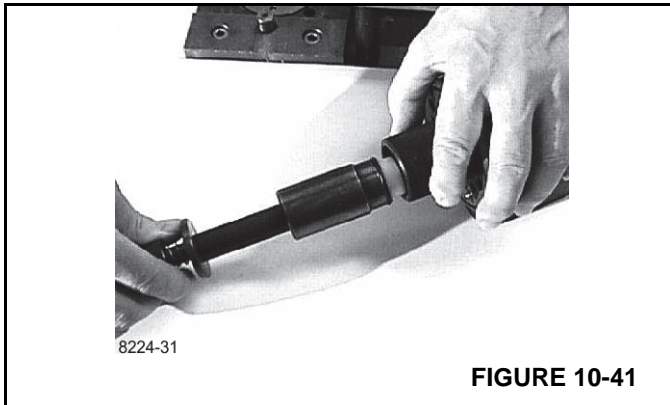

FIGURE 10-41
9. Hold the outer part of the assembly tool in the bottom of the steering unit housing and guide the inner part of the tool right to the bottom (Figure 10-41).